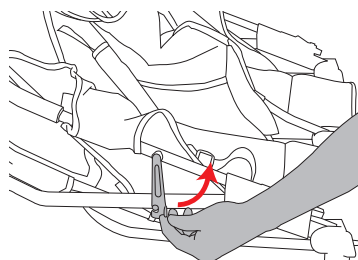

Figure 2
- If necessary, release the folding lock located on the right side by lifting the lock off of the extended rivet. See Figure 2.